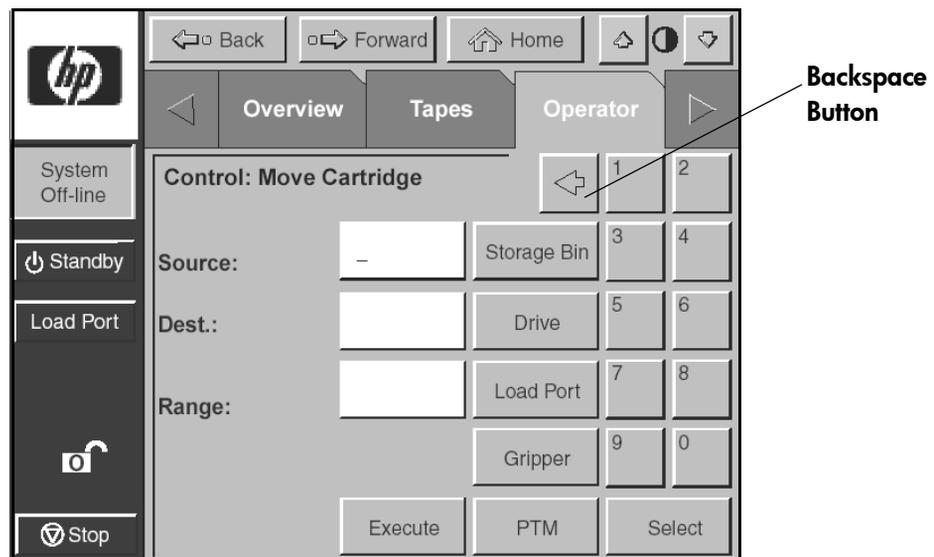

Figure 34: Control: move cartridge screen
1. From the **Operator** screen, press the **Move Cartridge** button. The control panel displays the **Control: Move Cartridge** screen, with the **Source** input field active (see Figure 34).
Note: Use the backspace button to erase a partial entry character by character (see Figure 34).